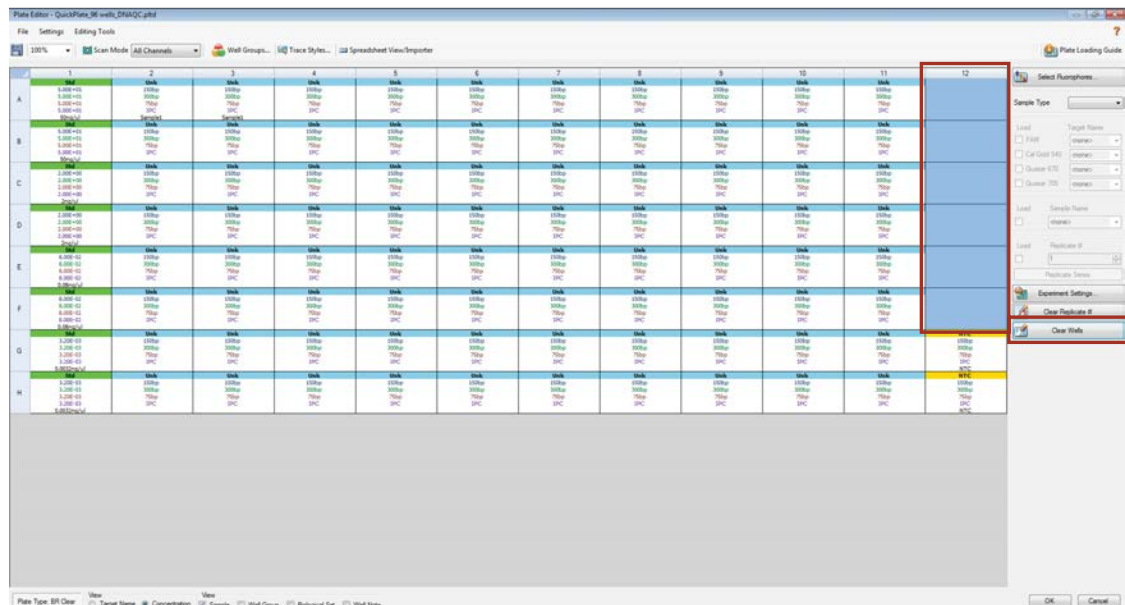

Figure 11. Using Clear Wells to remove information from selected wells.
6. For any empty wells, highlight the wells and use the Clear Wells button to remove all assigned information from them (Figure 11). If all wells on the plate contain samples, skip this step.